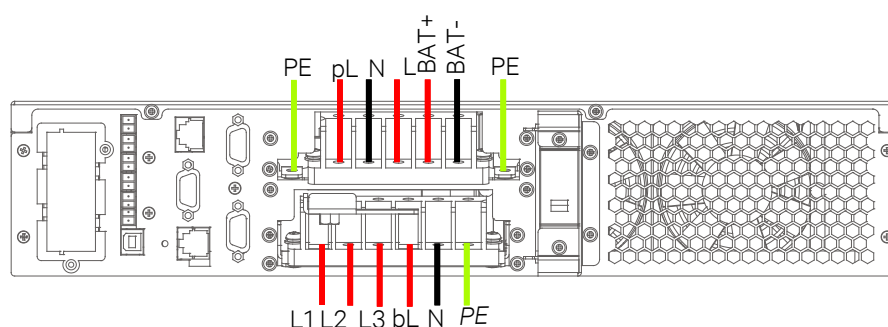

Figure 2-22 Wiring diagram (3-in 1-out, split-bypass configuration)
4. Pass the mains input live wire, bypass input live wire, input N line and input PE line through the cable holes of junction box, and connect them to the input live wire terminals (L1, L2, L3), bypass input live wire terminal (bL), input N line terminal (N) and input PE terminal (PE) respectively, then fasten the fixing screws. As shown in Figure 2-22.
5. As shown in Figure 2-22, pass the output live wire, output N line and output PE line through the cable entry holes of the junction box, and connect them to the output live wire terminal (L), output N line terminal (N) and output PE terminal (PE) respectively, then fasten the fixing screws.